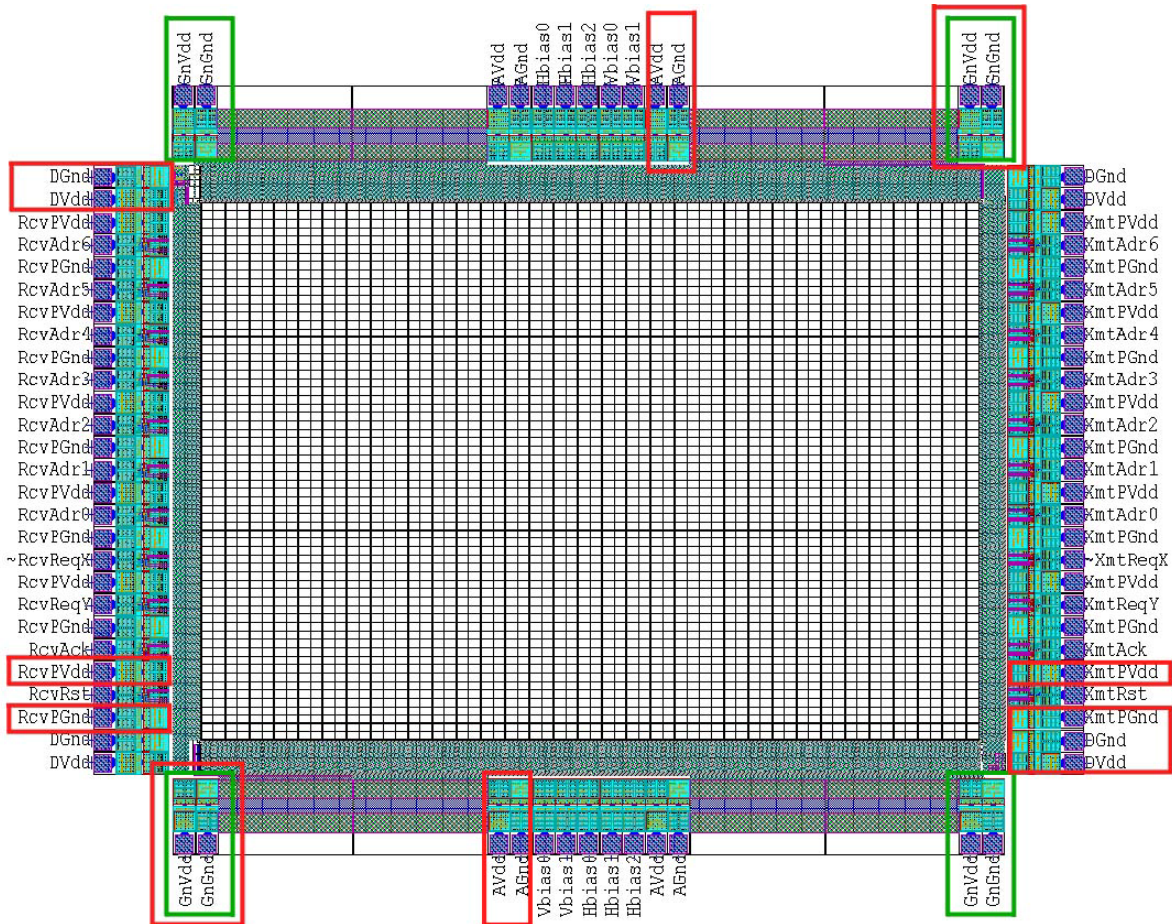

Figure 3.1: Example chip layout with pads.
When the ‘Padframe’ option is checked, ChipGen generates layout with pads in a cell named ‘chip’ (Figure 3.1). The top and bottom pads (FrameTop and FrameBottom) are reserved for analog power and biases. The left pads (FrameLeft) are reserved for digital power and receiver signals. The right pads (FrameRight) are reserved for digital power and transmitter signals. Below is a detailed description of each element of the padframe:
2. The ‘Guard Pads’ option places two pairs of Guard Vdd/Gnd pads (see Figure 3.1) on the left and right.
3. The ‘Reduce Pads’ option removes a pair of Analog Vdd/Gnd pads and a pair of Guard Vdd/Gnd pads (see Figure 3.1).
3. The ‘Guard Pads’ option places two pairs of Guard Vdd/Gnd pads (see Figure 3.1) on the left and right.
4. The ‘Reduce Pads’ option removes a pair of Analog Vdd/Gnd pads and a pair of Guard Vdd/Gnd pads (see Figure 3.1).
5. The 'Reduce Pads' option removes a pair of Digital Vdd/Gnd pads and a pair of RcvPVdd/Gnd pads (see Figure 3.1).
5. The 'Reduce Pads' option removes a pair of Digital Vdd/Gnd pads and a pair of Xmt-PVdd/Gnd pads (see Figure 3.1).